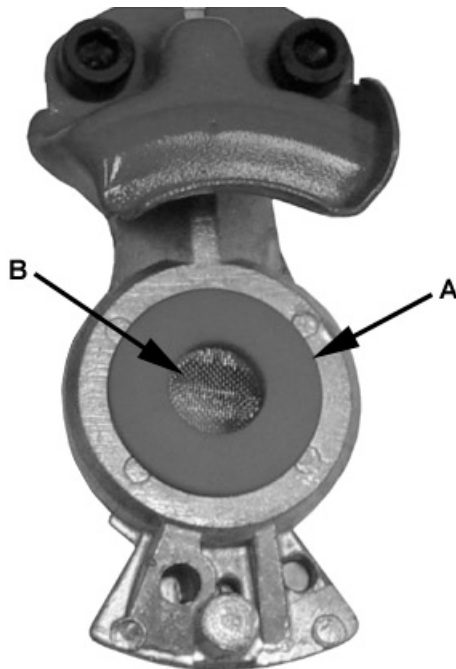

Figure 8-7 Glad Hand Seals And Screens
Inspect all glad hand seals (A) and screens (B) (if equipped) for damage and wear. Replace if damaged or worn. See figure 8-7.